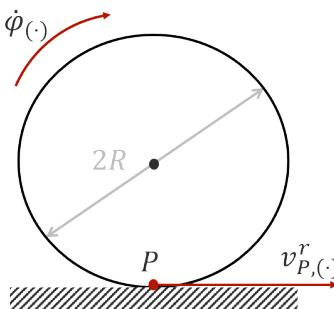

Figure 6.3. Pure rolling kinematic constraint
- *Pure rolling:* the wheels never slips or skids (Figure 6.3). Recalling that  $R$  is the radius of the wheels (identical) and letting  $\dot{\varphi}_l$ ,  $\dot{\varphi}_r$  be the angular velocities of the left and right wheels respectively, the velocity of the ground contact point P in the robot frame is given by: